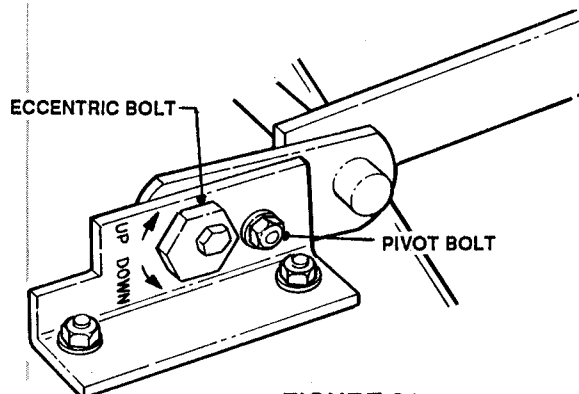

FIGURE 31
9. Loosen nuts on eccentric bolt and pivot bolt and level the deck side to side by turning the eccentric adjusting bolt (see Figure 31). The distance from floor to each blade tip should be within 1/8" of each other.